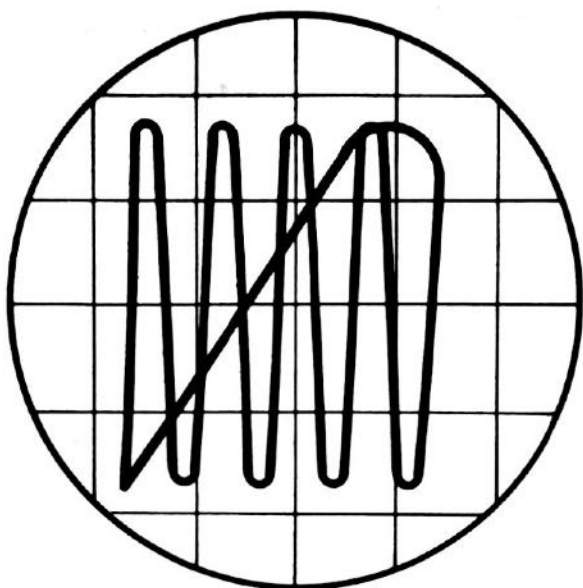
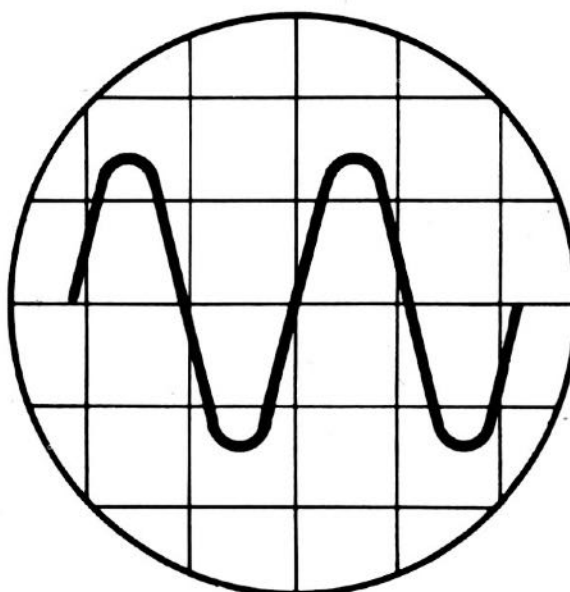

Figure 4-4
Figure 4-5
Connect the source of alternating voltage to be observed to the vertical input (AC) and GND connections. Set the **COARSE FREQUENCY** control, S104, to the slowest sweep frequency, position "3-18". The **SYNC. SELECTOR**, S103, should be turned to "INT", while the **LOCKING** control, R154, is turned to the zero position. Adjust **VERT. GAIN** R104 and **VERT. ATTEN.** S101 for suitable vertical deflection. Adjust **HOR. GAIN** R129 until the pattern is of the desired width. When the pattern first appears it will usually show many cycles as the picture of the sine wave under observation in Figure 4-4. Slowly rotate the **VERNIER-FREQUENCY**, R158, until the number of cycles decreases to the desired number. If the number is still greater than convenient, then **COARSE FREQUENCY** S104 should be rotated to the next clockwise position and fewer cycles will appear as shown in Figure 4-5. When the desired number of cycles are obtained, the trace can be locked in by rotating the **LOCKING** control, R154, either clockwise or counter-clockwise, depending upon whether it is desired to lock in positive or negative synchronizing pulses.